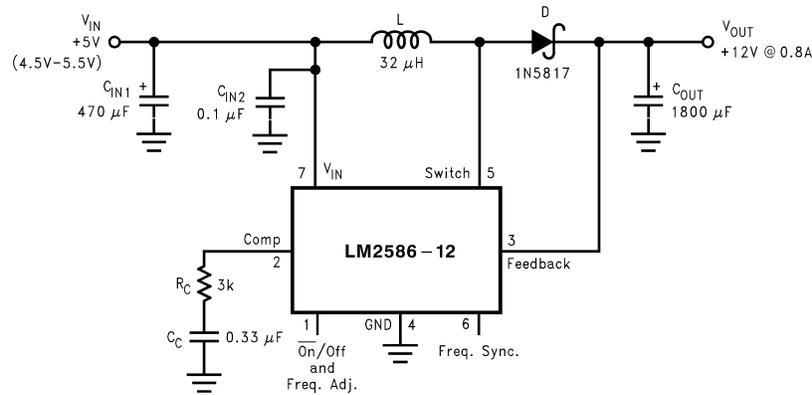
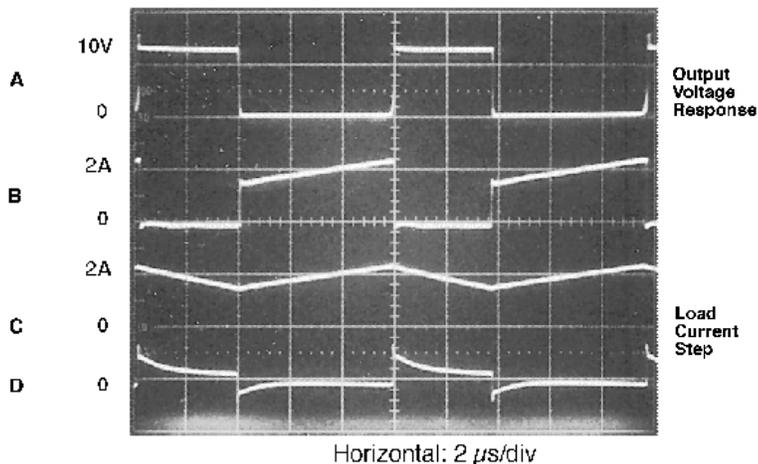
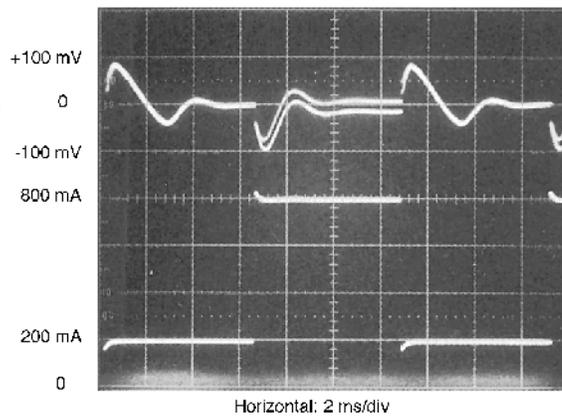

Figure 46. 12V Boost Regulator
Figure 47. Switching Waveforms
Figure 48. V_{OUT} Response to Load Current Step
Figure 46 shows the LM2586 used as a step-up (boost) regulator. This is a switching regulator that produces an output voltage greater than the input supply voltage.
A brief explanation of how the LM2586 Boost Regulator works is as follows (refer to Figure 46). When the NPN switch turns on, the inductor current ramps up at the rate of V_{IN}/L , storing energy in the inductor. When the switch turns off, the lower end of the inductor flies above V_{IN} , discharging its current through diode (D) into the output capacitor (C_{OUT}) at a rate of $(V_{OUT} - V_{IN})/L$. Thus, energy stored in the inductor during the switch on time is transferred to the output during the switch off time. The output voltage is controlled by adjusting the peak switch current, as described in Flyback Regulator.
By adding a small number of external components (as shown in Figure 46), the LM2586 can be used to produce a regulated output voltage that is greater than the applied input voltage. The switching waveforms observed during the operation of this circuit are shown in Figure 47. Typical performance of this regulator is shown in Figure 48.